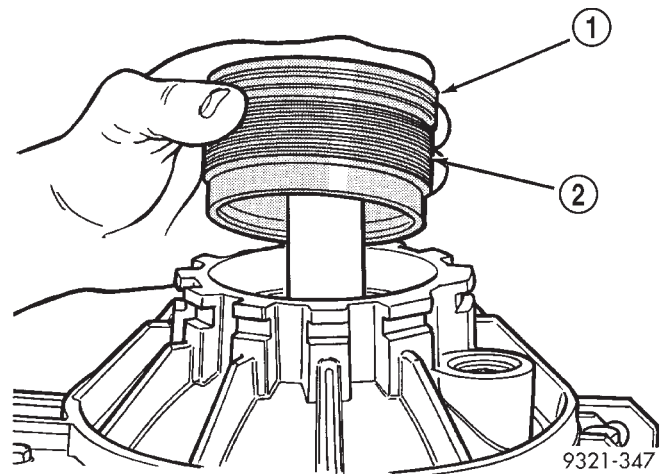

Fig. 429 Outer Adjuster Installation
(55) Install outer adjuster with new O-ring (Fig. 429). Torque the outer adjuster (special tool 6503) to the torque reading recorded in Step 30. Then seat bearings by turning differential three or four revolutions in both directions. Tighten adjuster a second time to same torque recorded in Step 30. Again